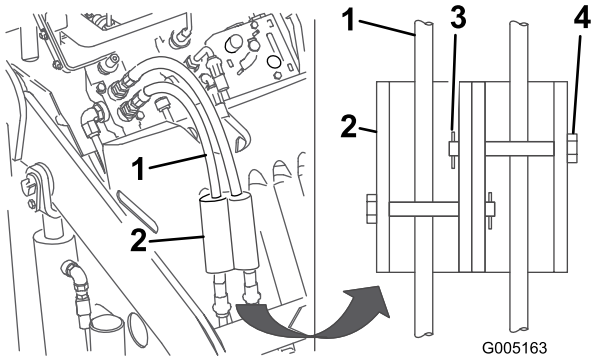

Figure 13
7. Install the cylinder locks over the hydraulic hoses and secure them with the clevis pins and cotter pins (Figure 13).